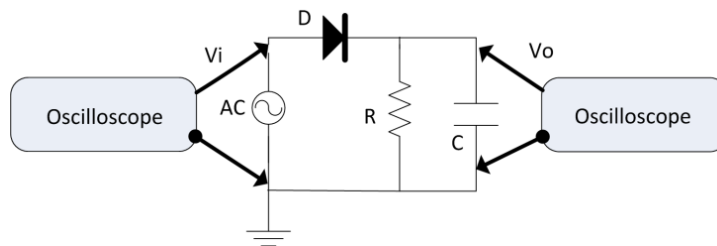

Fig. 2.11.1
1. Setup the circuit as Fig. 2.11.1.